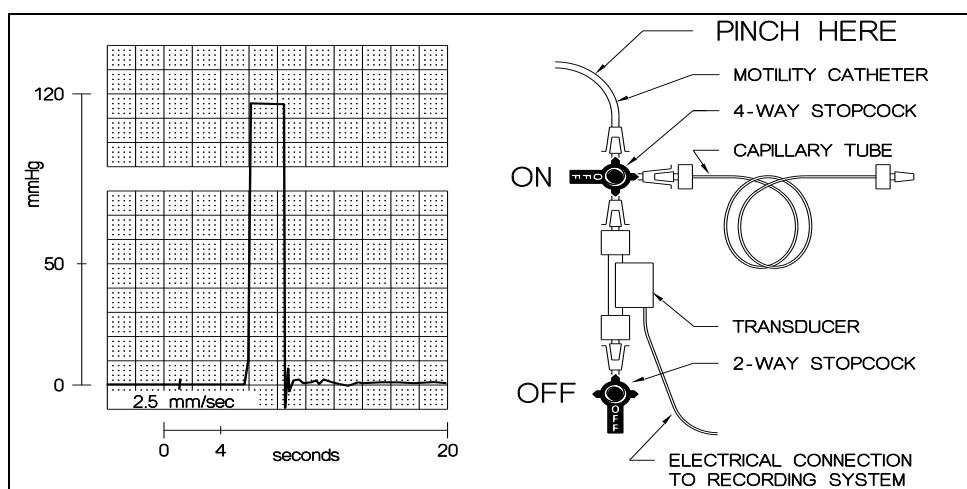

Figure 18. Pinch Test: Pinch Point and Output Graph
- Firmly pinch the motility catheter for several seconds at a point immediately above the 4-way stopcock as shown in Figure 18 and release it. The pressure tracing should respond immediately with a virtually vertical rise to the full-scale pressure amplitude as set. See the graph in Figure 18. This response confirms that the entire system is functioning properly, with no leakage.